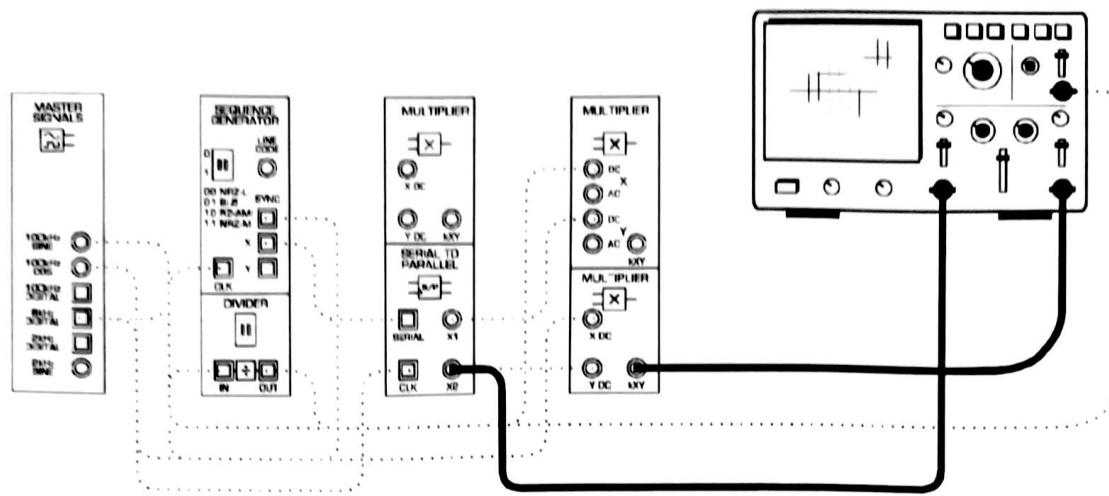

Figure 7
18. Move the scopes connections to the set-up as shown in Figure 7 on the next page.